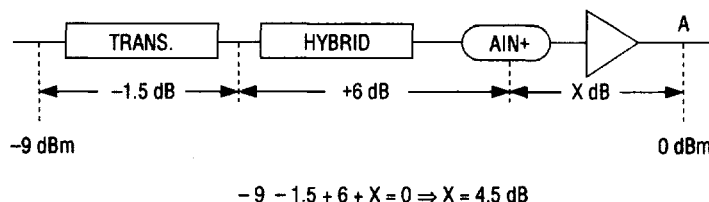

Figure 14
- 1) If the insertion loss of the line transformer is 1.5 dB, the voltage gain of the input amplifier by the on-chip operational amplifier should be 4.5 dB based on the following equation. Figure14 should be referred to this consideration.